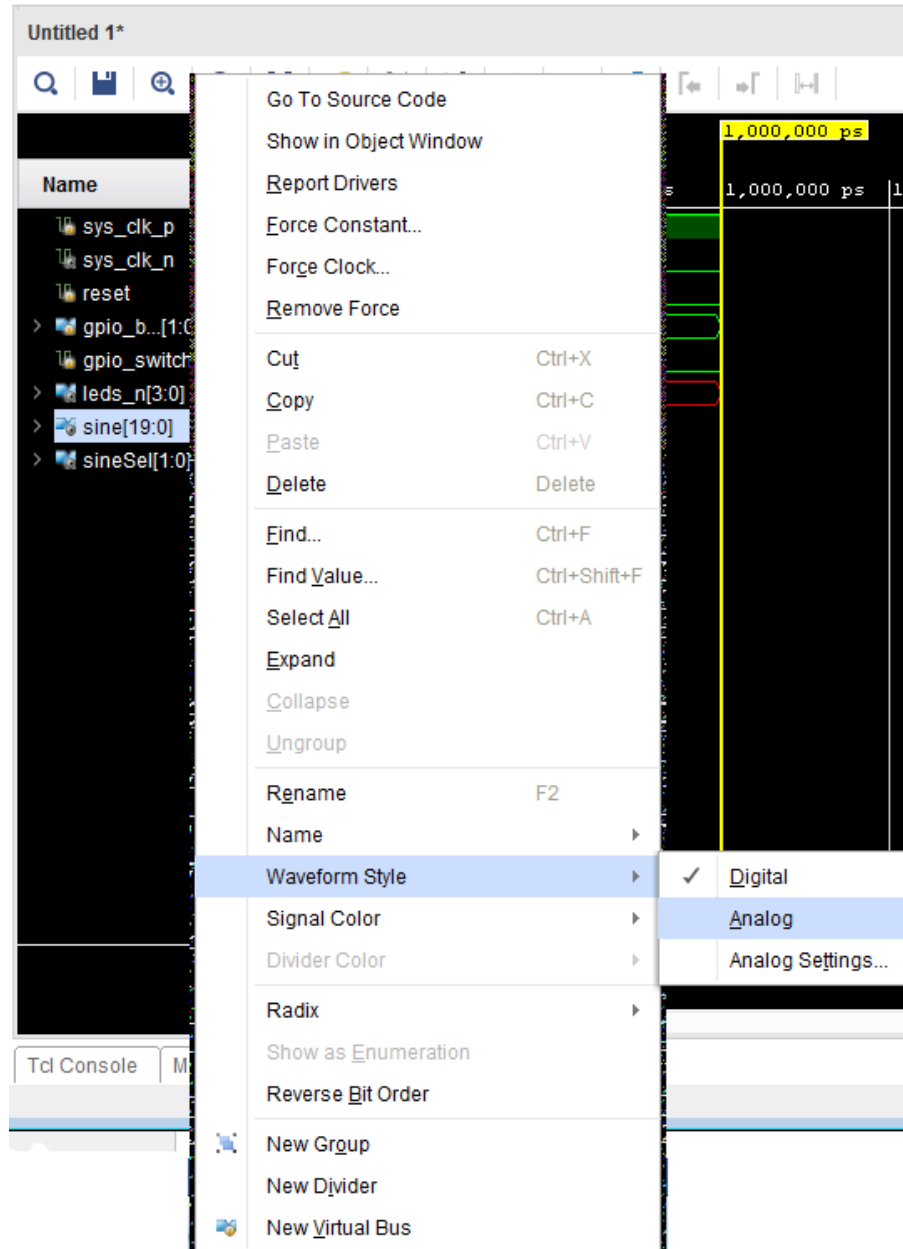

Figure 16: Enable Analog Waveform Style
2. Right click to open the popup menu, and select **Waveform Style > Analog**, as shown in Figure 16.